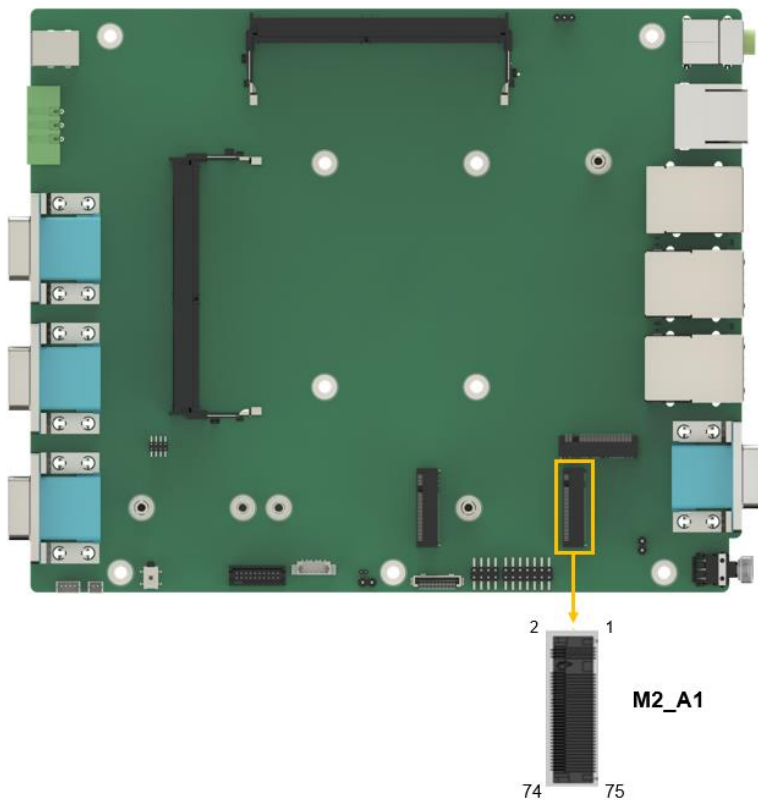

Figure 4-19: M.2 A-key Slot Location
- CN Location:** See **Figure 4-19**